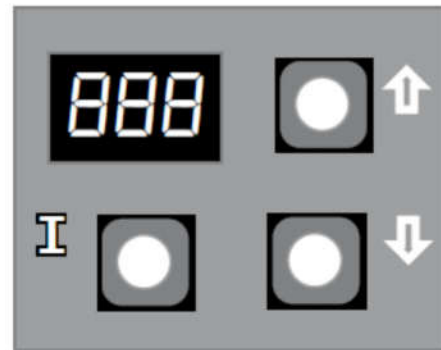

Figure 1 Control Display
The control is located on the front panel inside the boiler. The control display, along with Up ▲, Down ▼, and "I" keys may be used to view boiler operating status and program parameters (Figure 1).
1. Press with Up ▲, Down ▼, and “I” keys (see Figure 1) simultaneously for three seconds.